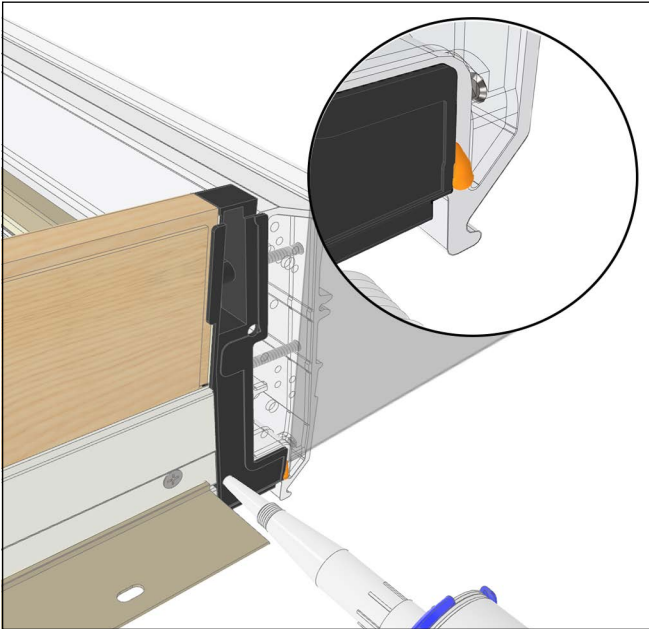
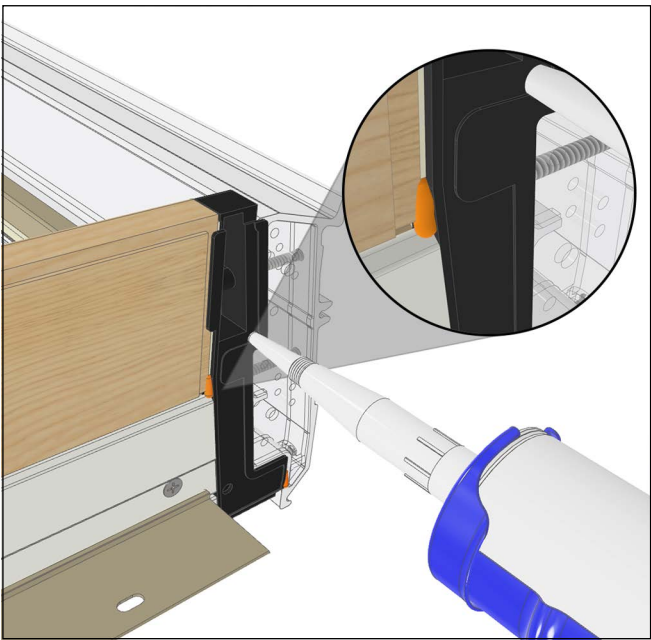

Figure 5
Figure 6
5. Inject the sill until squeeze out occurs in both locations. *Note: Inject the exterior most hole first and the interior second.* Clean up excessive silicone squeeze out as necessary. See Figure 5 and Figure 6.